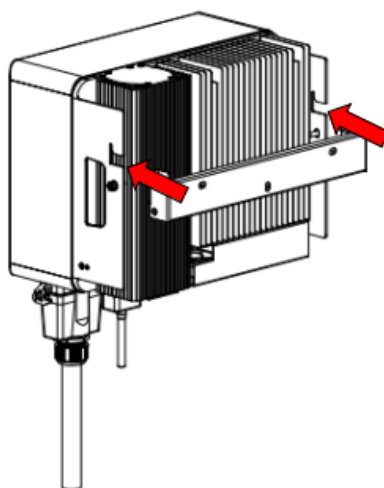
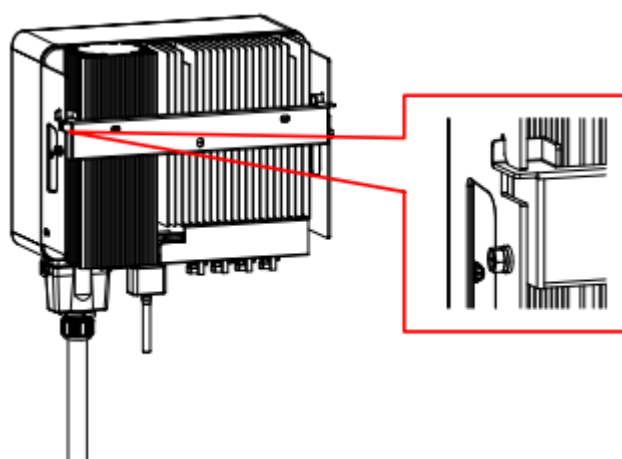

Fig. 9
Fig. 10
2. Hang the inverter hanger vertically onto the wall mounting bracket (Fig. 9). Fasten the wall mounting bracket and the inverter hangers by M5 bolts on the left and right sides of the wall mounting bracket (Fig. 10).